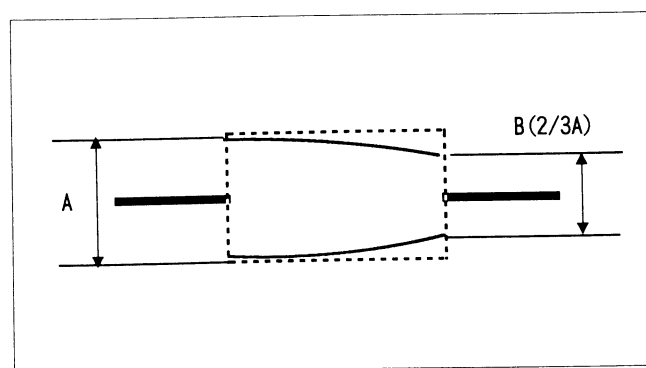

Fig. 1-8
- 3) Make the RF waveform envelope 2/3 by turning ATF Balance Volume (VR403). (Fig. 1-8)